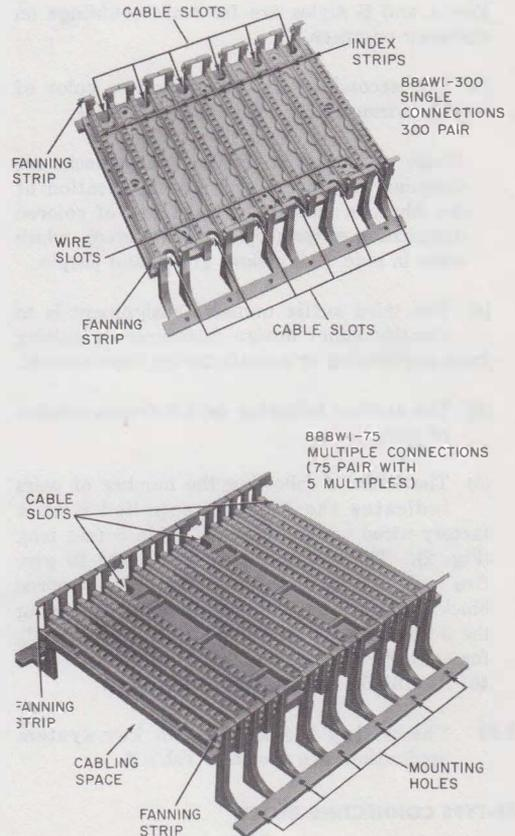

Fig. 1—88-Type Wiring Block
2.01 The 88-type wiring block (Fig. 1) is made of flame retardant plastic with molded index strips. Separate backboards are not required. Each index strip has 50 slots to accommodate a 25-pair
cable or a color binder group for terminating PE or PVC 22-, 24-, 26-gauge wire without removing insulation. The index strips are color-coded white, red, black, yellow, violet, from left to right, in 5-pair segments to match the color coding of even-count cables. The various parts of the wiring block are shown in Fig. 1.